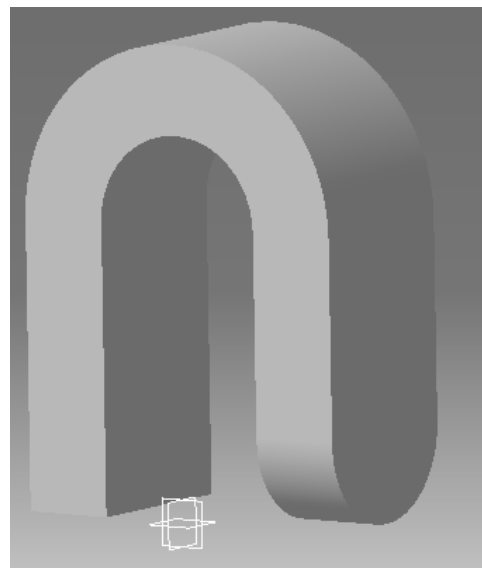

**Figure 2.5**
- 2.11 Select the front and back surfaces as the **Faces to Fillet** on the “Top U-Joint”, as shown in Figure 2.5